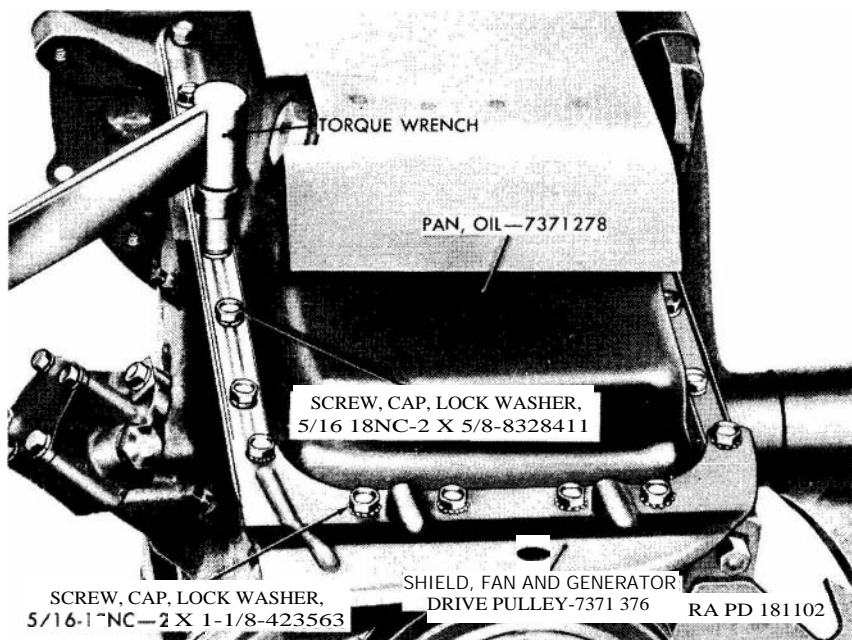

Figure 91. Installing oil pan and fan and generator drive pulley shield
e. Coat both sides of the oil pan gasket (fig. 91) with liquid type gasket cement. Loosely attach the oil pan and gasket to the bottom of the cylinder block with fourteen $\frac{5}{16}$ -18NC-2 x $\frac{3}{8}$ lock washer cap screws installed in the side and rear mounting holes. Do not install cap screws in the front six holes.
f. Center a fan and generator drive pulley shield spacer gasket (fig. 17) and a pulley shield spacer over each of the oil pan front mounting holes. Install the fan and generator drive pulley shield (fig. 91) on top of the spacers with the squared side of the shield on the oil pump side of the engine. Secure the shield in place with six $\frac{5}{16}$ -18NC-2 x $1\frac{1}{8}$ lock washer cap screws. Tighten the pulley shield cap screws and the oil pan cap screws to 12--17 pound feet torque.